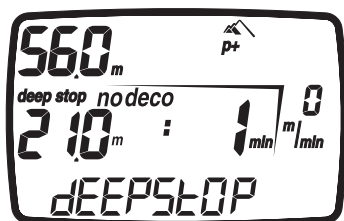

Fig. 13
- When the <ESC> button is pressed during the dive, Nemo Wide will temporarily display the estimated deep stop required. The data displayed during the ascent may vary as a result of the diver's behavior. Divers should check this data during their ascent for more precise information on the estimated stop (Fig. 13).